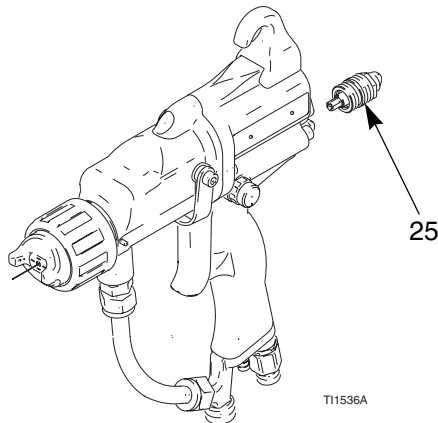

Fig. 17. Fluid Adjustment Valve
2. Remove the fluid adjustment valve (25). It can only be replaced as a complete assembly. See FIG. 17..
3. Screw the valve (25) into the gun handle. Torque to 15-25 in-lb (1.7-2.8 N•m).